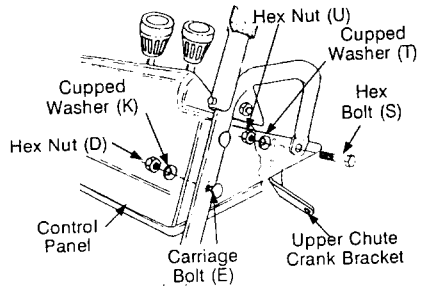

FIGURE 3
- Place the control panel assembly in position between the handles so the ends of the handle go through the slots in the control panel assembly. See figure 3. Note: Flat sides on the ends of the handles should be towards the inside to attach to the support bracket.
- Attach the front of the control panel assembly loosely using carriage bolt (E), cupped washer (K) and hex nuts (D). See figure 3.
- On the **left side** (shown in figure 3) position the upper chute crank bracket to the inside of the handle panel support. Insert hex bolt (S) through the upper chute crank bracket, handle panel support, handle and secure using cupped washer (T) (cupped side against the handle) and hex nuts (U). See figure 3.
- On the **right side** only (not shown in figure 3) attach handle to the rear of the handle panel support using hex bolts (S), cupped washers (T) (cupped side against the handle) and hex nuts (U). See figure 3.